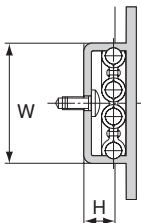

Fig.1
Fig.1 shows the dimensions of grooves for applications where model FBW-R (H) is installed in a groove.